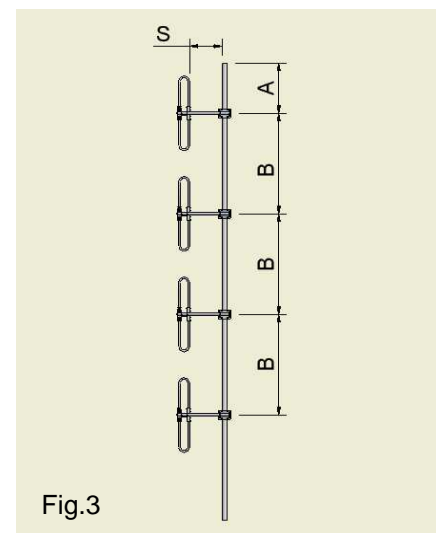

Fig.3
- STEP 6. Nominal dipole mounting distances and spacing are tabulated below. **(See fig.3)**